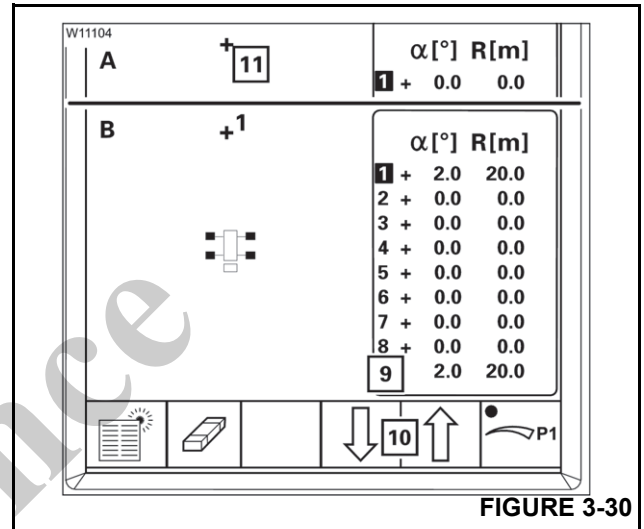

FIGURE 3-30
1. With the buttons (10) (Figure 3-30), select the first point, e.g. point (1), it turns blue.
2. Move the main boom head (11) to just before the first point of the object.